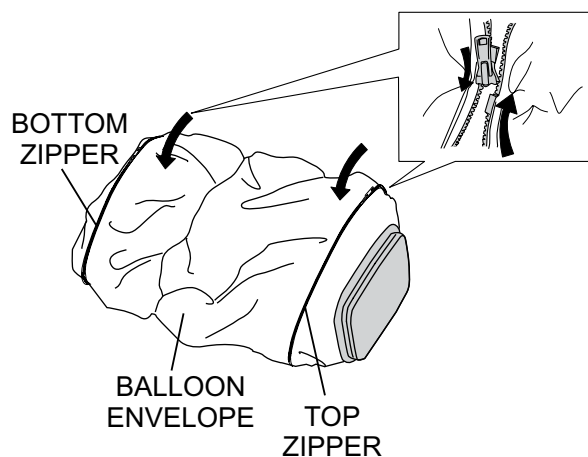

Figure 44. Zipping the Balloon Envelope
4. Zip up the zipper (Figure 44) at the top and bottom of the balloon envelope (cover).